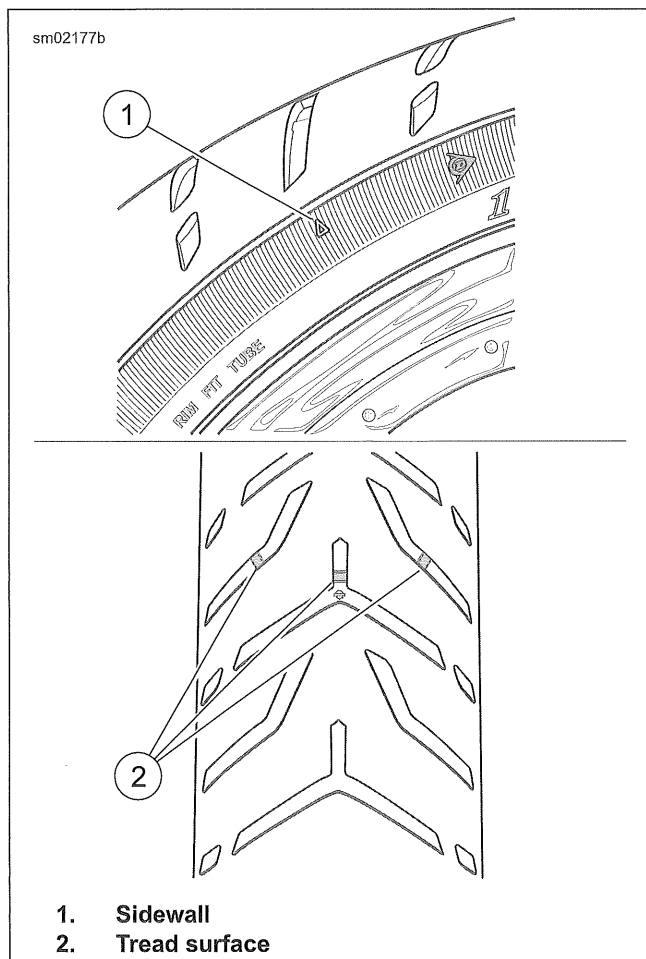

Figure 3-25. Tread Wear Indicators (Typical)
- See Figure 3-25. The tread wear indicators appear when $\frac{1}{32}$ in (0.8 mm) or less tread remains. Always replace tires before tread is worn to the indicators.